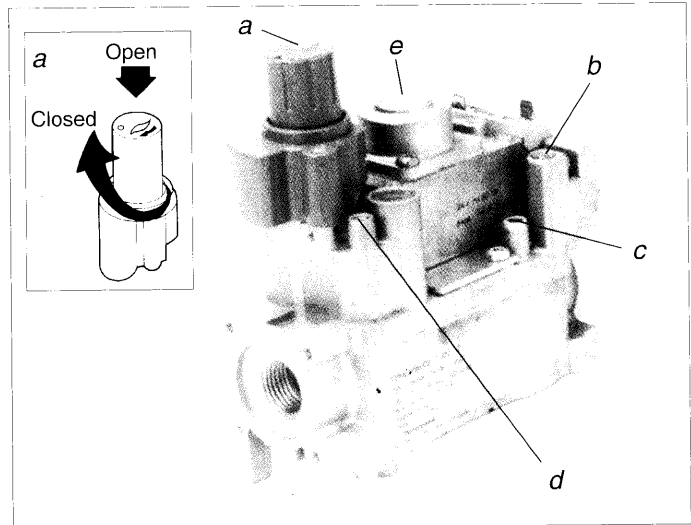

Fig. 07 Gas combi-block 7 and 8 sections (V4600 C)
7. Press the push button on the gas combi-block (the button with the flame, see fig. 07 and 08, a). The gas now released can be ignited using the push button on the piezo ignition.
11. Set the desired burner pressure by turning screw "e" (fig. 07 and 08).
- a. The pilot flame is too small: increase the gas flow by adjusting the regulating screw above the gas pipe for the ignition (see fig. 07 and 08, b). Adjust the gas flow to approx. 24 l/h (0.024 m³/h).